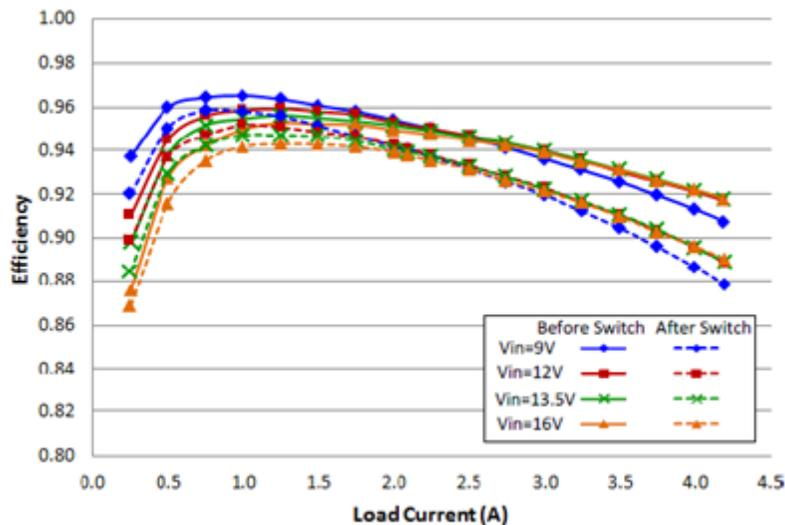

Figure 5. Efficiency Curves for the LMS3655-Q1
The LMS3655-Q1 operates at a sub-AM band to maximize efficiency, but TI also designed it at the integrated circuit (IC) level to operate at the highest level of integration, thermal performance and EMC through a combination of internal field-effect transistor (FET) selection, dead-time reduction and other techniques to minimize parasitic resistance. See Figure 5.